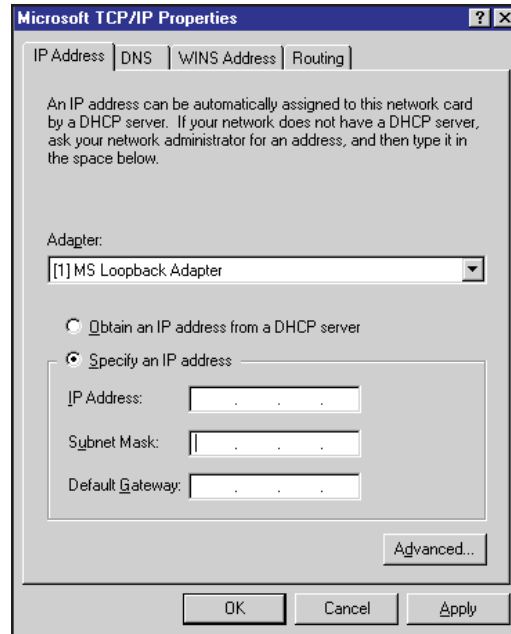

Figure 184 TCP/IP Properties Screen
2. Click the **Close** button to exit the Network setting dialog. You'll be prompted (via the dialog in Figure 184) to set up the TCP/IP properties.